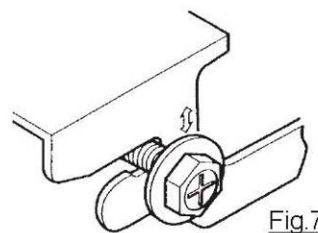

Fig.7
5. Lift the unit and slide forward unit the dent. (Refer to Fig.7)